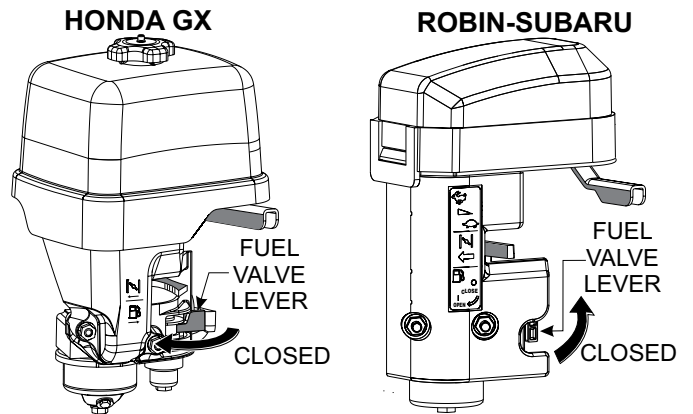

Figure 39. Fuel Valve Lever (OFF)
4. Close the fuel shut-off valve (Figure 39) by moving the fuel valve lever to the **OFF** position.